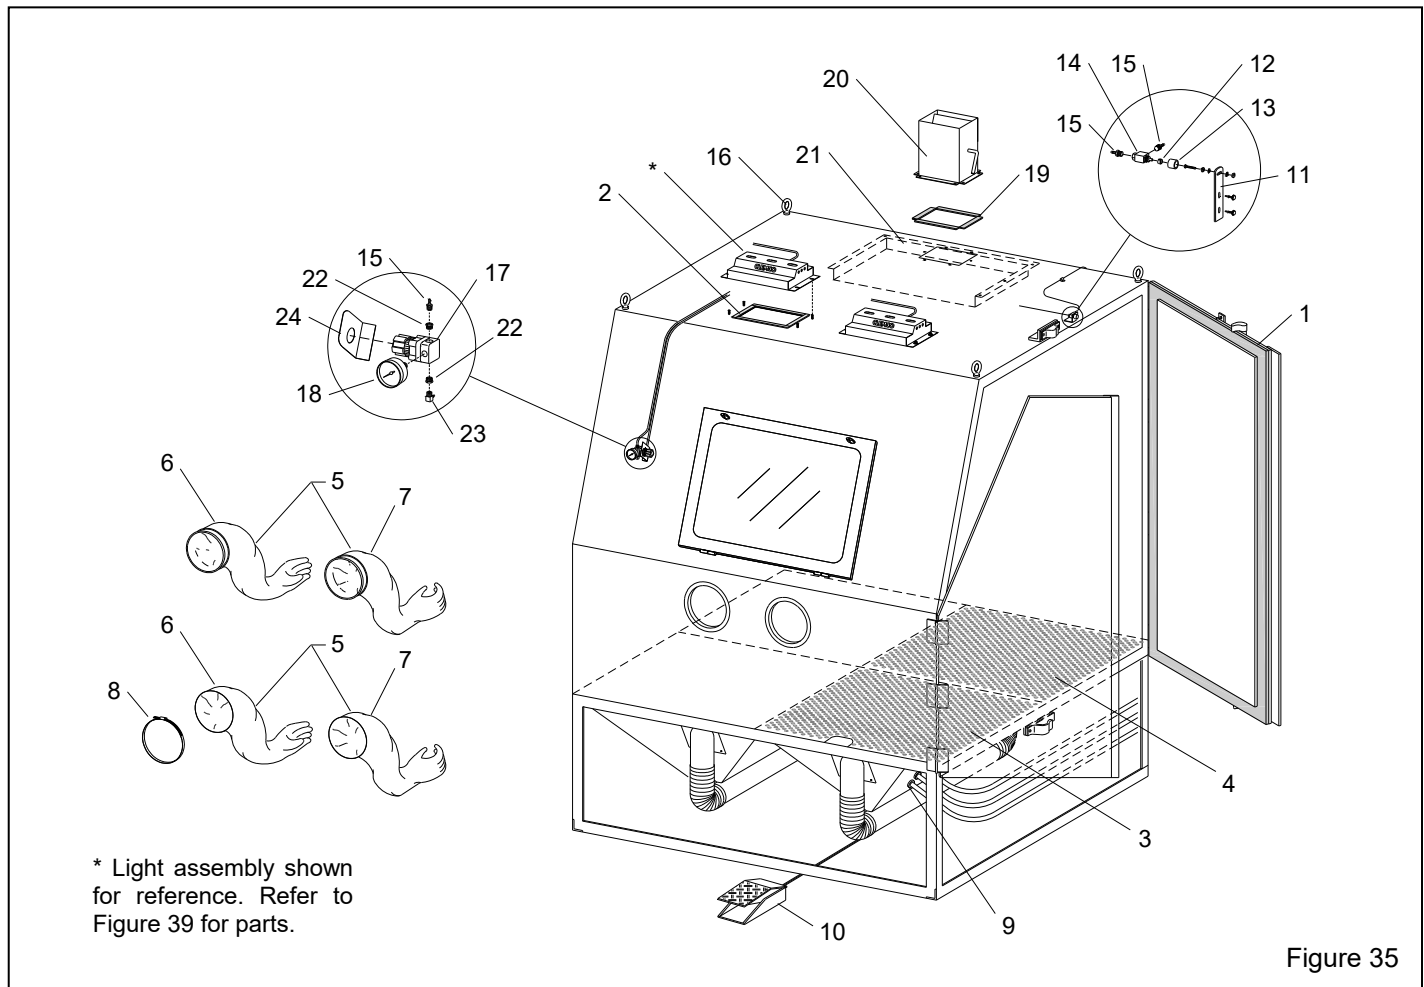

Figure 35
9.2 Cabinet Replacement Parts – Figure 35